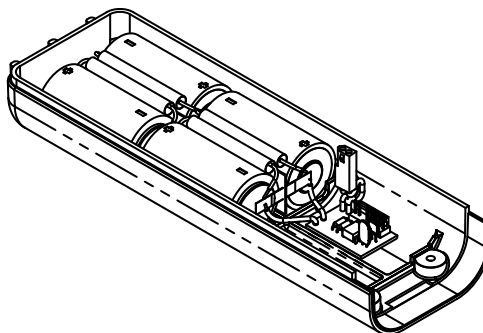

Figure 5. Battery Pack Assembly
- (4) The battery pack for the C406-1 Series ELT consists of four "D" size lithium manganese dioxide cells connected in series. To prevent the cells from being charged, diodes are connected across each cell and fuses are connected to the output. See "Figure 5. Battery Pack Assembly".